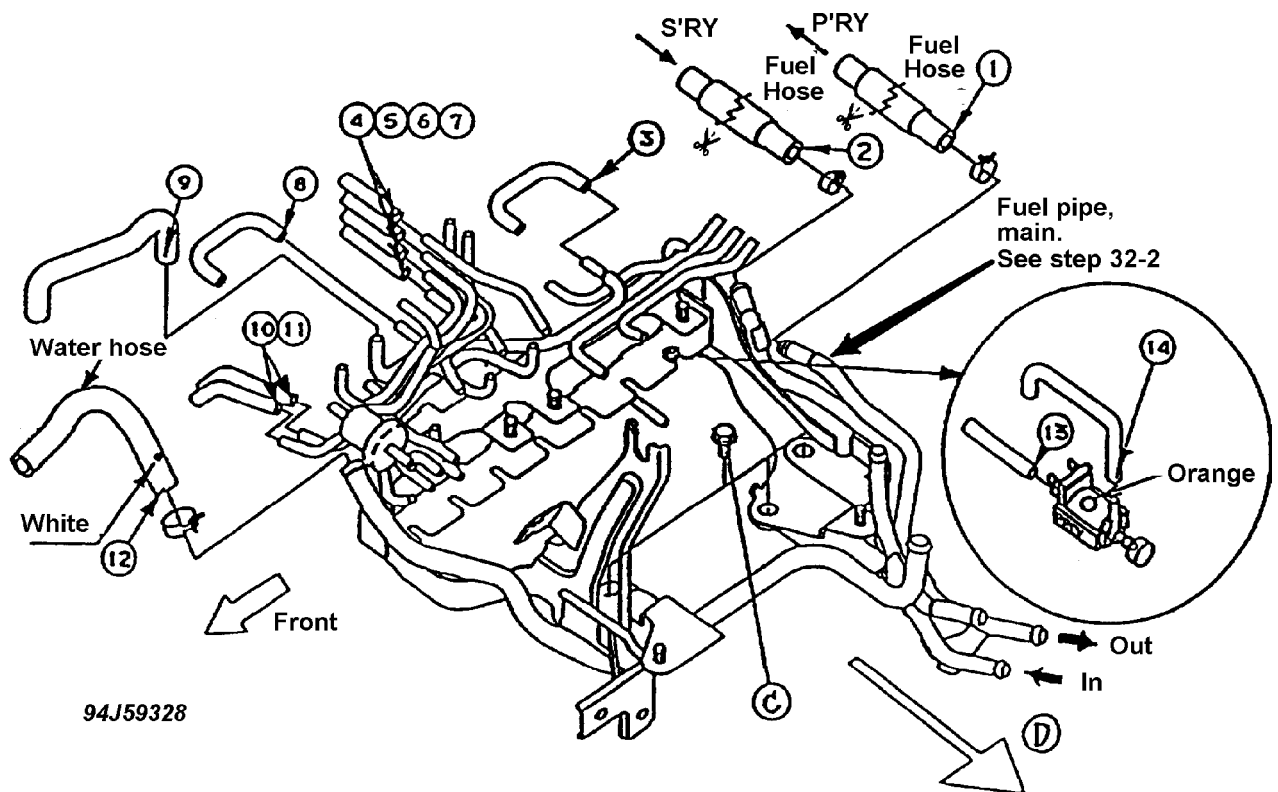

Fig. 15: Exploded View of Tubes & Hoses for Modification
See Fig. 15.
1. Loosen the three bolts that attach the vacuum pipe to the engine. See letter C in Fig. 15.
3. Remove the vacuum tubes, water hose and fuel hoses (cutting the fuel hoses off where indicated by scissors in Fig. 15, makes the work easier).
\* Remove the hoses on the sides indicated by arrows (-->) shown in Fig. 15.
4. Move the vacuum pipe assembly toward direction D as shown in Fig. 15.